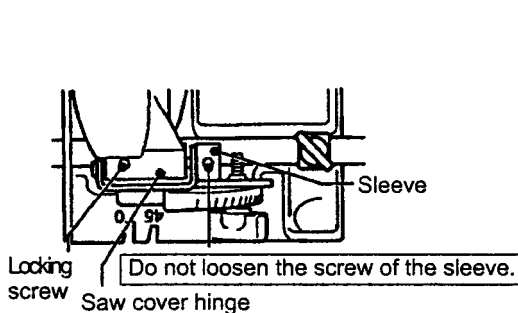

Fig. 1
- (a) Loosen the locking screw of the saw cover hinge (Fig. 1).